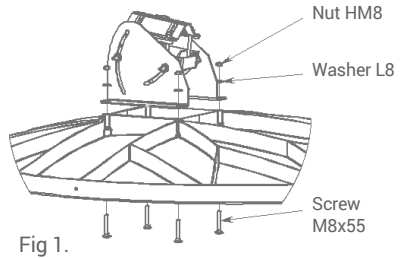

Fig 1.
1. Place the main dish face down and fix the pre-assembled mount using Head square Neck screws with washers and nuts (x4) as shown in Fig 1.